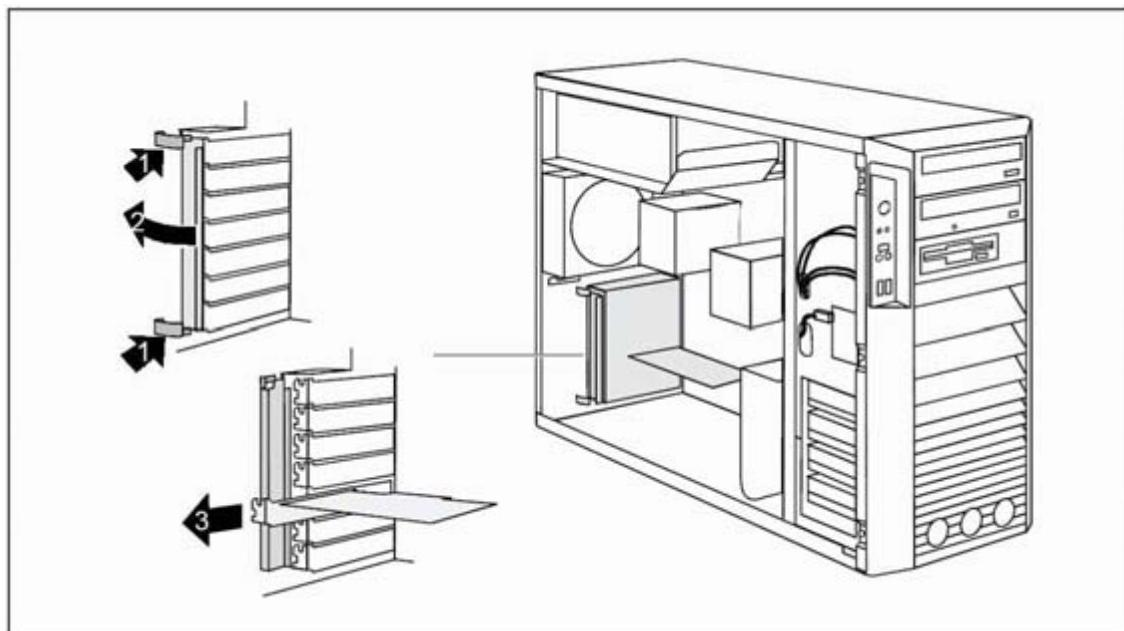

Fig. 62: Replacing a PCI board M450
7. Press down on the clips ([1/\[Fig. 62 / p. 107\]\(#\)](#)) in the direction of the arrow and unhook them from the casing rear panel.
8. Open up the locking rail in the direction of the arrow ([2/\[Fig. 62 / p. 107\]\(#\)](#)).
10. Remove the board from the slot ([3/\[Fig. 62 / p. 107\]\(#\)](#))